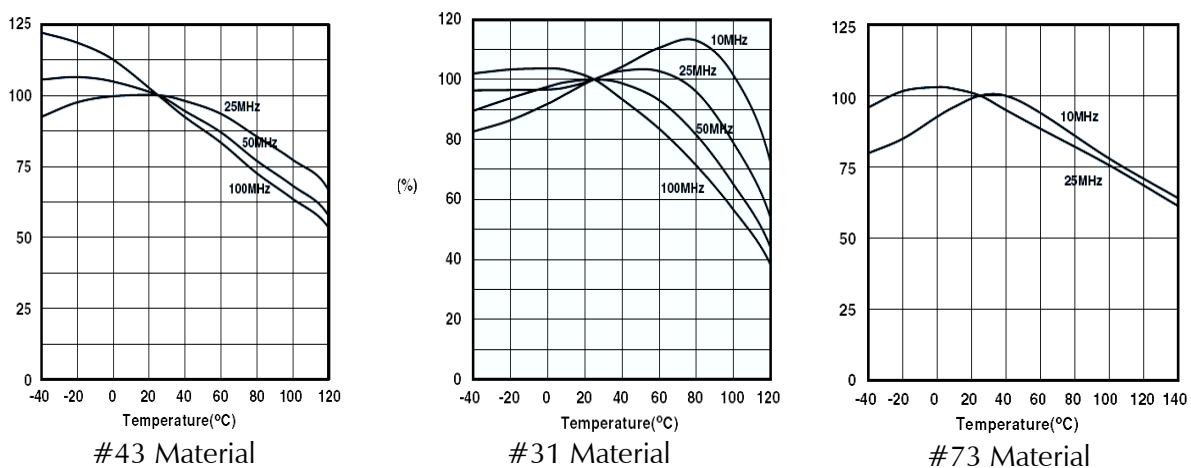

Fig 25 – Impedance vs. Frequency and Temperature as a percentage of impedance at 25°C
**Temperature** The permeability of ferrite materials varies as a function of both frequency and temperature, and different mixes behave very differently (Fig 25). Any RF current that produces a field